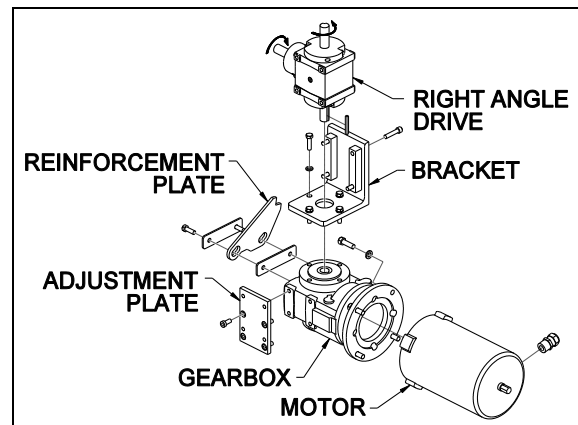
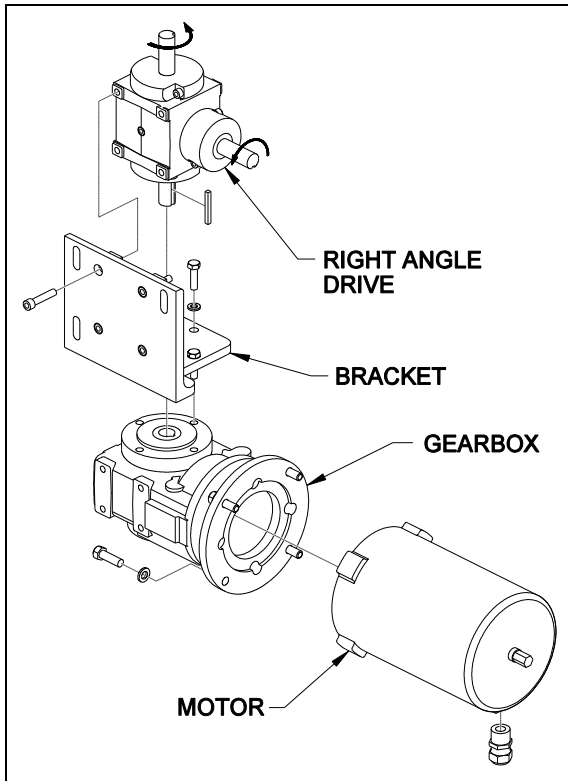

FIGURE 24 : FRONT SLIDE-OUT MOTOR ASSEMBLY
FIGURE 25 : REAR SLIDE-OUT MOTOR ASSEMBLY
3. **For the front slide-out:** Remove the reinforcement plate from the gearbox (figure 24).
5. Remove the gearbox assembly (figure 24 and figure 25). Note the shim position.
6. Unscrew the right angle drive from its bracket (figure 24 and figure 25).
9. Check the right angle drive rotation (figure 24 and figure 25) before installing it on the bracket. Align the right angle drive shaft with the gearbox hollow shaft and tighten all screws.